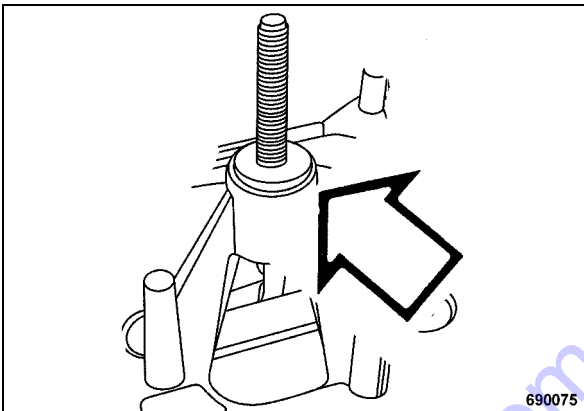

Fig. 40
- Check the rubber seal, if necessary replace the damaged rubber seal (Fig. 40).